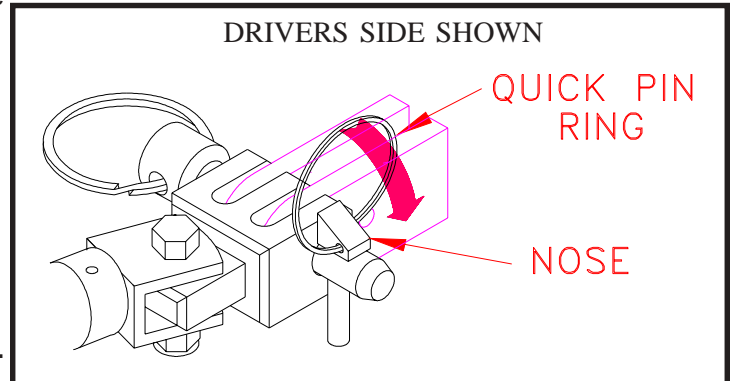
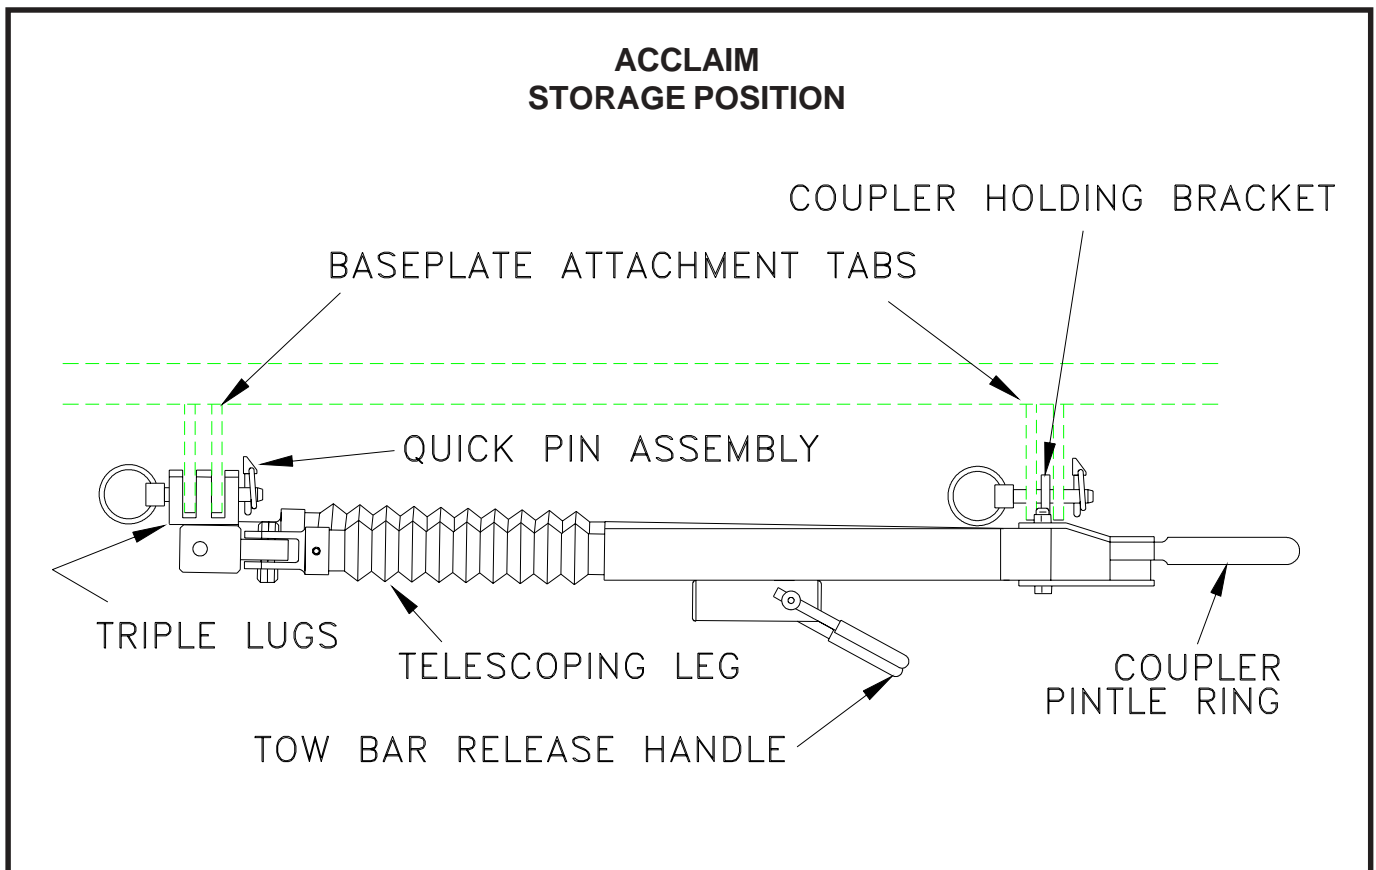
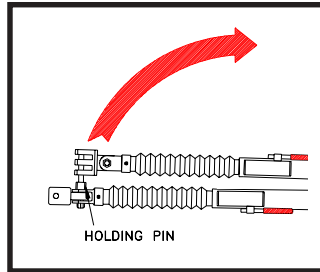

Figure 2
Figure 1
Figure 3
1. Using the cable hooks, attach the cables to a solid part of the chassis of the towed vehicle or to the convenience links. Be sure that the safety snap returns to its original position to prevent the hook from unhooking. (See Fig. 3) **NOTE:** It is best to have permanent chains that connect the convenience links to the frame of the car. (See Fig. 2)
2. **NOTE: Do not wrap safety cables around legs or damage could occur to rubber boot. If it is necessary to remove slack from the cables, wrap each once around their respective tow bar leg in front of the latch housing and then cross them under tow bar.** (See Fig. 1)
3. Using the cable hooks, attach the opposite ends of the cables to a solid part of the chassis of the towing vehicle if at all possible. Be sure that the safety snap returns to its original position to prevent the hook from unhooking. (See Fig. 3)
1. **Refer to figure 1 while installing the tow bar.** Hold the tow bar in position aligning the triple lug (with holding pin) onto the passengers side attachment tabs. Insert the 1/2 inch pin through the attachment tab and triple lug and secure with quick pin assembly, folding the quick pin ring down to the nose side. **Refer to figure 2.** Next hold the pintel coupler end of the tow bar to the drivers side attachment tabs. Align the pintel coupler holding bracket (on under side of pintel coupler) between the driver side attachment tabs and insert the 1/2 inch pin through the tabs and bracket. Secure the 1/2 inch pin with a quick pin assembly, folding the quick pin ring down to the nose side. **Refer to figure 2.**
Make sure you are able to identify the tow bar parts, (Figure 1), before proceeding.
2. Pull the top tow bar leg off the holding pin of the other leg (Figure 3).
4. Extend the other tow bar leg over to the vacant attachment tab and insert the half 1/2" pin through the triple lug and the tabs. Insert the quick pin assembly into the half inch pin folding the ring knob side down. See Figure 2 of the **Installation** section.